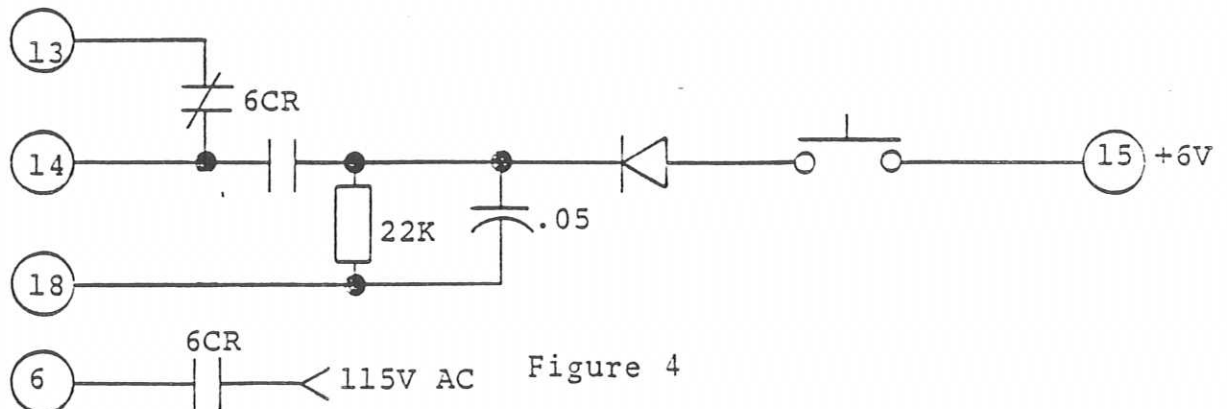

Figure 4
6. If very small increments of change are required, individual pulses of 5 volt magnitude and two microseconds duration may be applied between circuit common terminal 18 and "CLOCK IN" terminal 14 as shown in Figure 4 below: